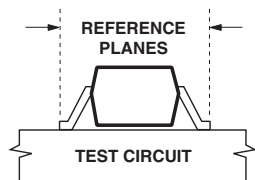

Figure 11. Reference Planes.
1. Reference plane per Figure 11 in Applications Information section.
The positions of the reference planes used to measure S-Parameters and to specify Γ_{opt} for the Noise Parameters are shown in Figure 11. As seen in the illustration, the reference planes are located at the extremities of the package leads.